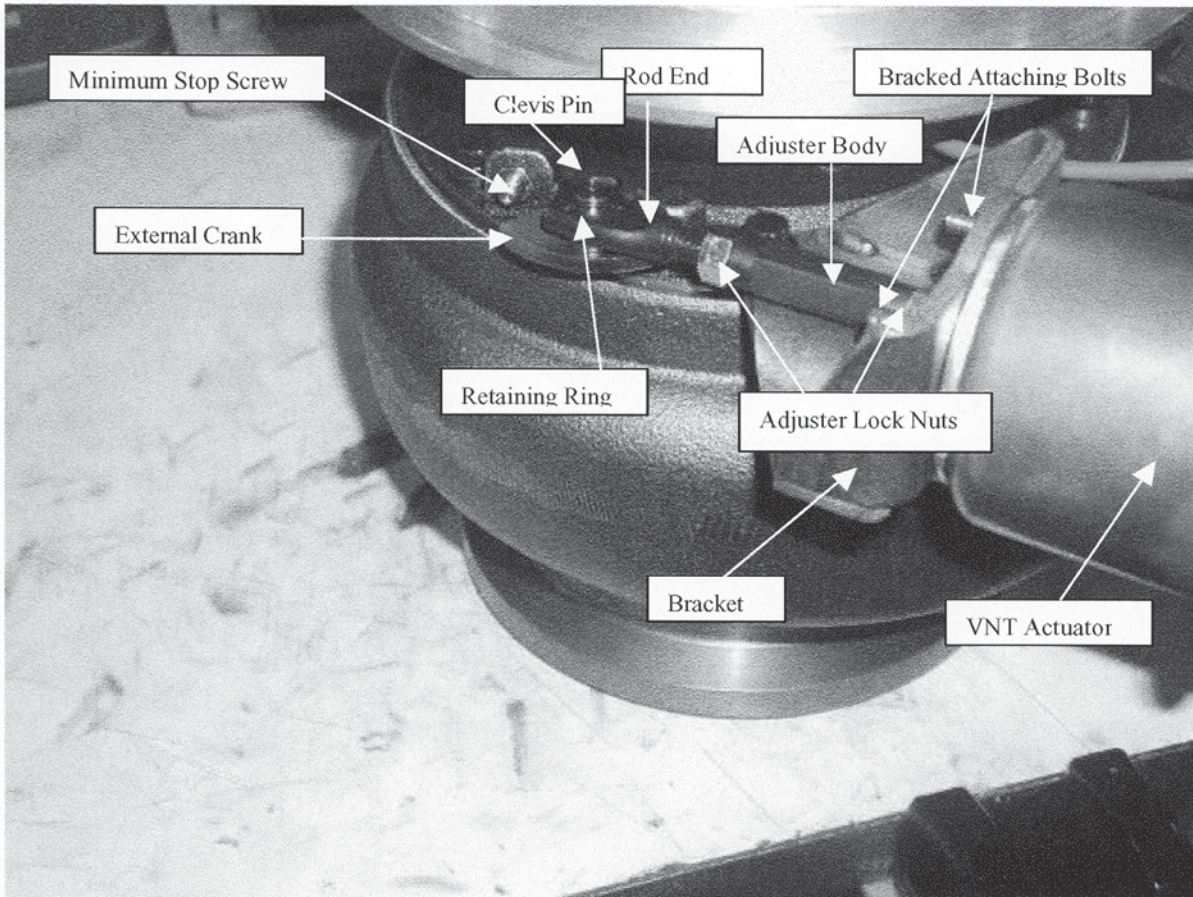

Figure 1
VNT Actuator Removal (Refer to Figure 1)
7. Rotate the ***adjuster body*** (see Figure 1) until a 0.004 inch ± 0.001 ($0.10 \pm .0250$ mm) gap is achieved between the stop screw and clevis. Without allowing the adjuster body to rotate, tighten the lock nuts to 6.2 – 7.9 N-m (55 – 70 in-lbs).